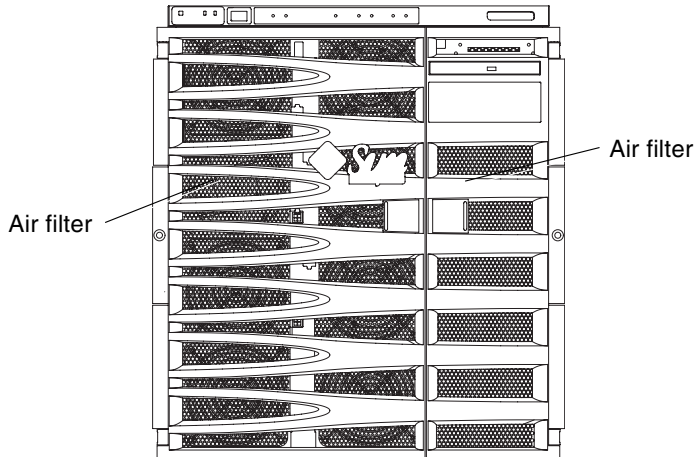
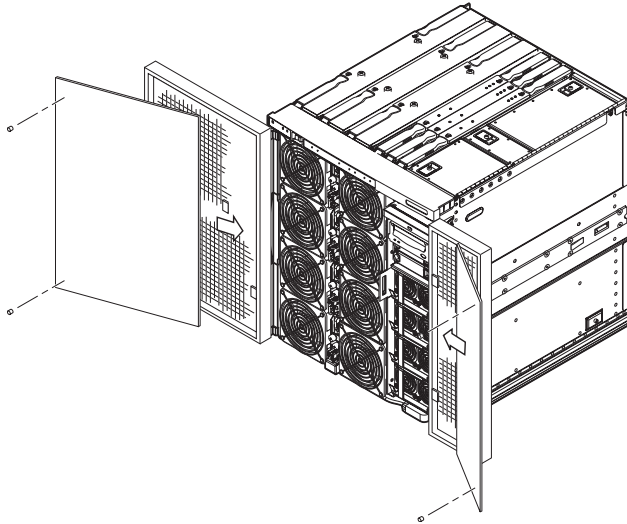

FIGURE 2-5 Location of the Air Filters on the Sun Fire V1280/Netra 1280 System
FIGURE 2-6 Installing the Sun Fire V1280/Netra 1280 System Air Filters
2. Locate the two air filters (FIGURE 2-5 and FIGURE 2-6).
- Reinstall the air filters into the system (FIGURE 2-6).
- If you are going to install new replacement filters, install the replacement air filters into the system (FIGURE 2-6).